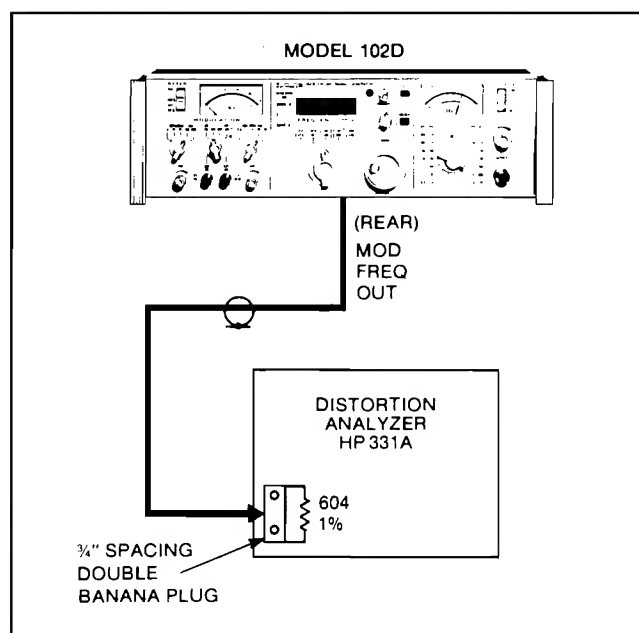

Figure 2-18 Modulation Oscillator Output Check, Test Setup
a. Connect the Model 102D and test equipment as shown in Figure 2-18.